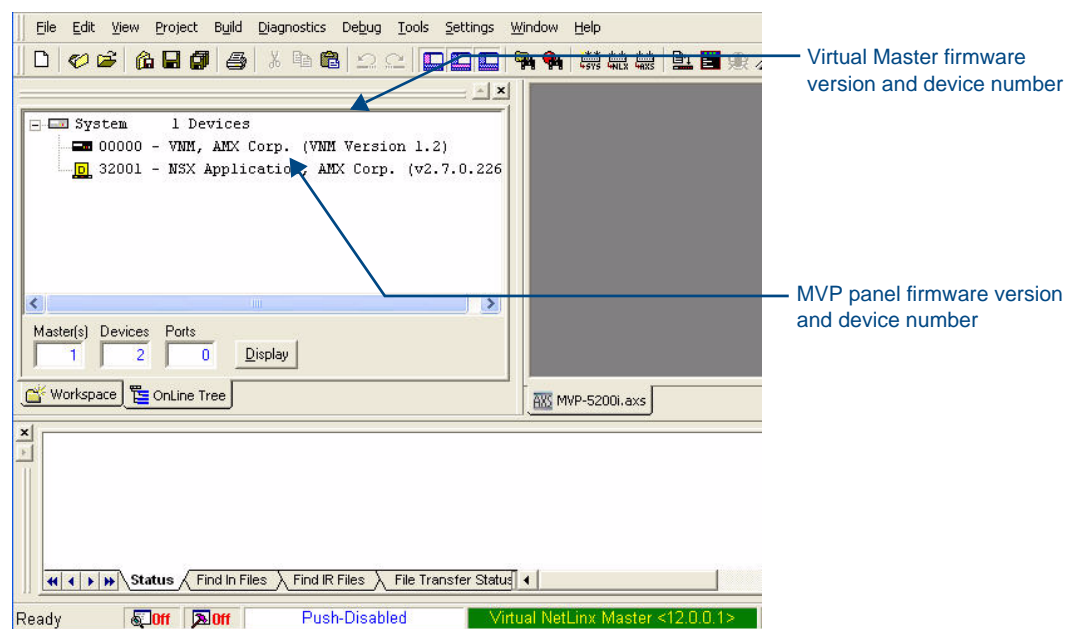

FIG. 109 NetLinx Workspace window (showing panel connection via a Virtual NetLinx Master)
3. After the *Communication Verification* dialog window verifies active communication between the Virtual Master and the panel, click the **OnLine Tree** tab in the Workspace window (FIG. 109) to view the devices on the Virtual System. *The default System value is 1.*
4. Right-click on the System entry (FIG. 109) and select **Refresh System** to re-populate the list. Verify the panel appears in the **OnLine Tree** tab of the Workspace window.